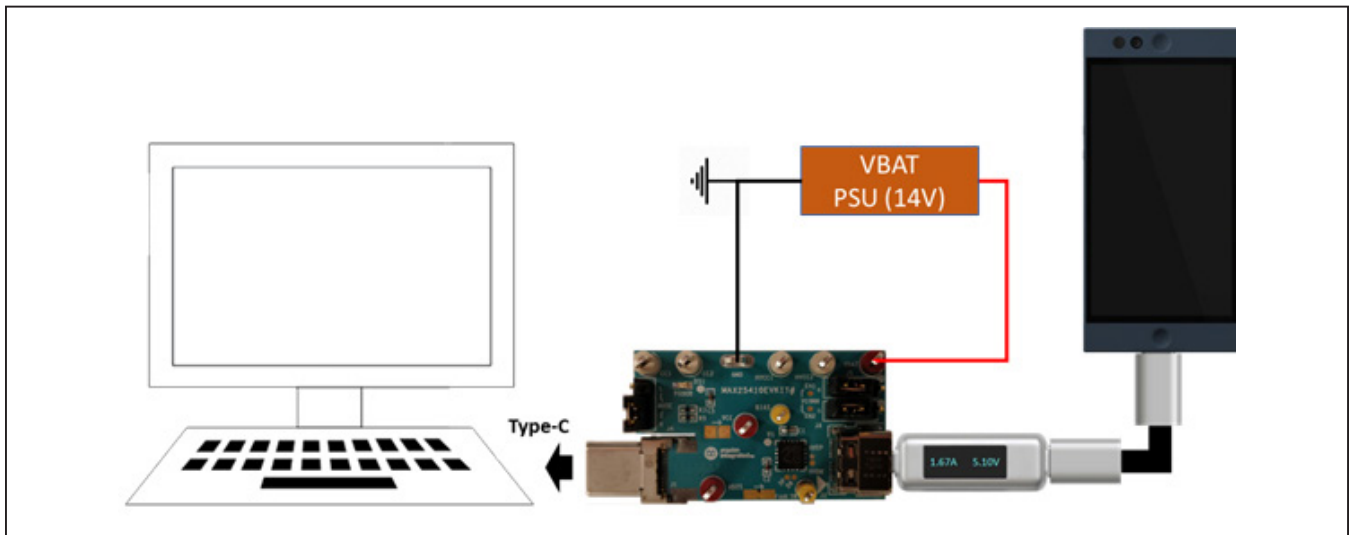
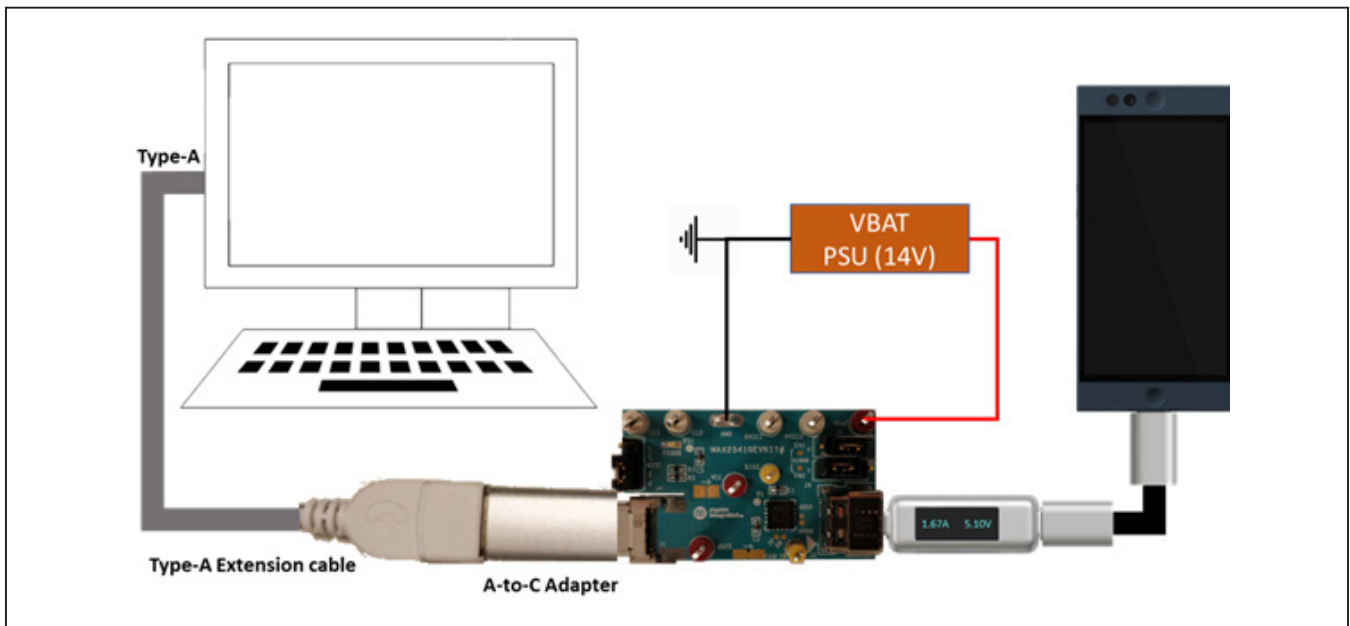

Figure 10. Auto-DCP Setup (Type-C Downstream Port)
Figure 11. Auto-DCP Setup (Type-A Downstream Port)
- 1.5A or greater Type-C or Type-A downstream port. If Type-A, an A-to-C adapter and extension cable (1m or shorter) are needed. See the example setups in Figure 10 and Figure 11.